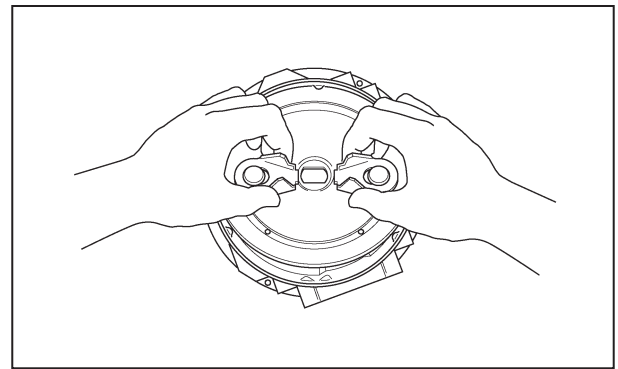

Figure 4.12
14. Hold rotating shredder lugs and pull shredder plate up and toward you so plate is above two of three protrusions (see Figure 4.12). Pull plate free from upper end bell. (There may be slight resistance due to interference fit.)